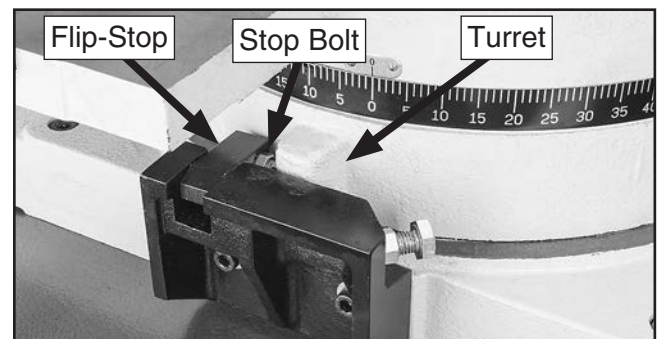

Figure 91. Flip-stop engaged.
- While standing by motor, rotate headstock to right approximately 5°, rotate flip-stop inward to engage it (see **Figure 91**), then rotate headstock to left until turret just contacts stop bolt.